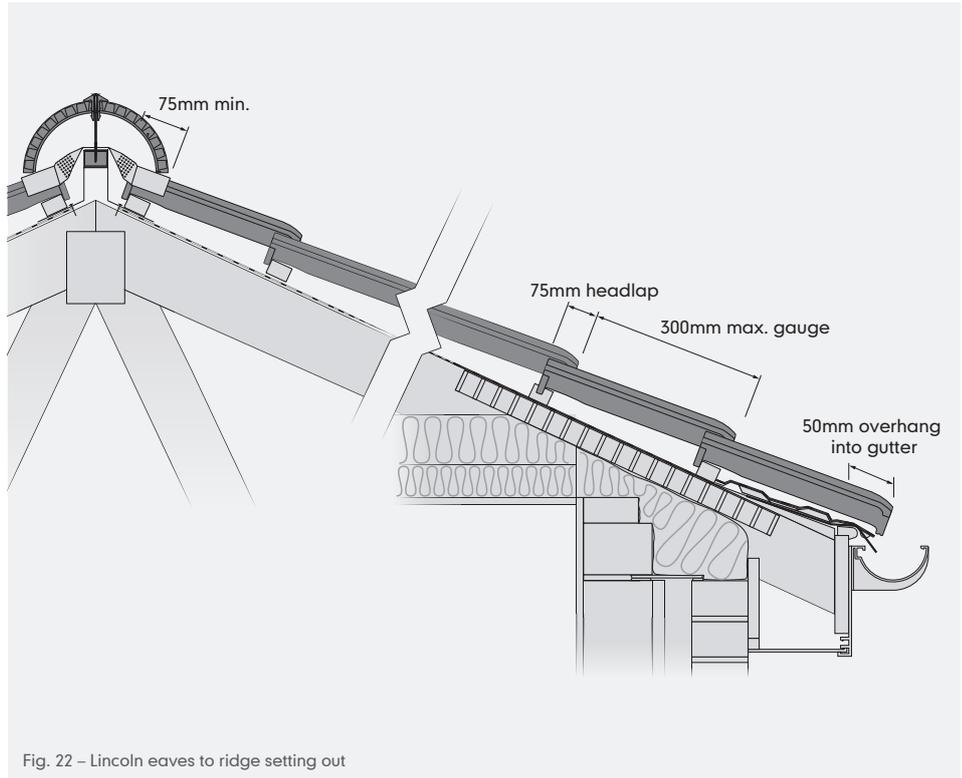

Fig. 22 – Lincoln eaves to ridge setting out
- 1 Lincoln tiles have an open gauge, which can be adjusted up to a maximum spacing of 300mm to ensure a minimum headlap of 75mm (Fig. 22).